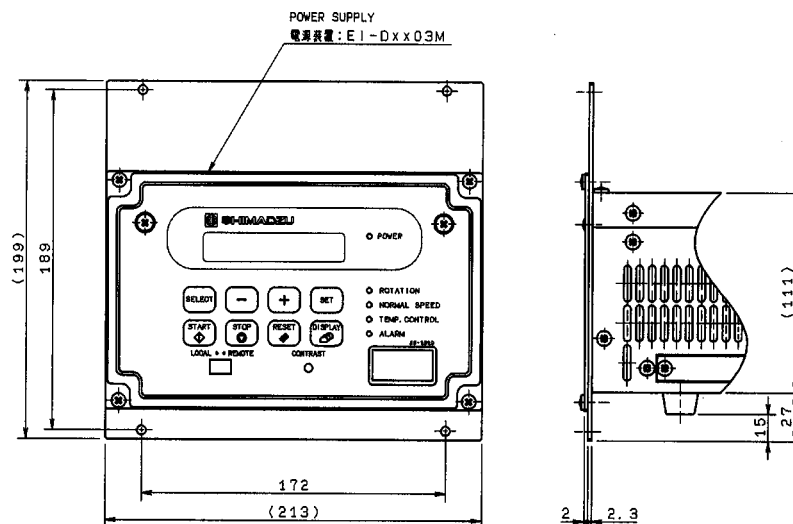
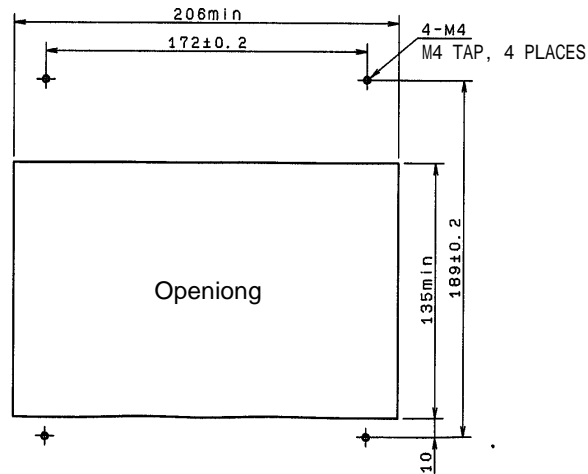

Fig.5-6 Dimensions of the Power Supply Unit with Rack Mounting Panel
Fig.5-7 Panelcut Dimensions
- (1) Turn the power supply unit over and remove the four rubber pads.
- (2) Attach the rack mounting panel to the power supply unit with four Panel Attachment Screws. (See Fig. 5-6)
- (3) Reattach the rubber pads of the power supply unit if they are necessary.
- (4) Fix to the rack using 4 M4 tap screws. (See Fig. 5-6, Fig. 5-7)